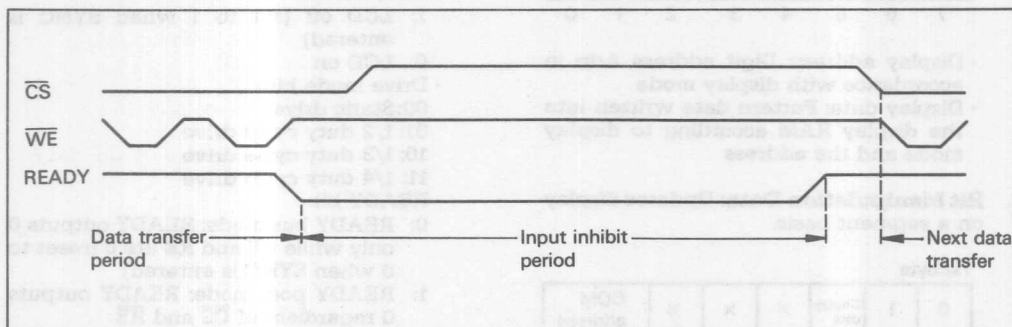

Figure 16 READY Output Timing (When It is Always Available)
- READY is always available (figure 16).